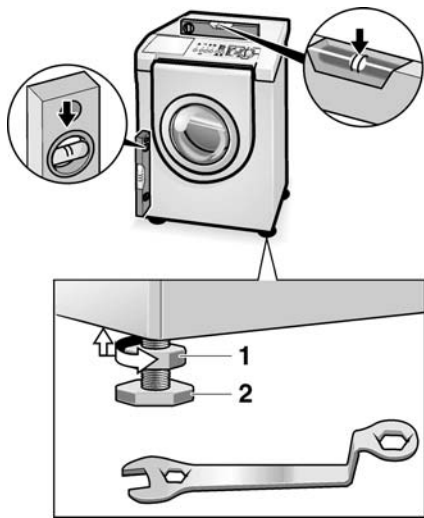

Figure 17
- ❑ Loosen the lock nut (see **Figure 17, item 1**) by turning it clockwise. Use the wrench provided (or a 5/8" – 16mm open end wrench). When you turn the lock nut, the foot (see **Figure 17, item 2**) it is locked against will turn with it. This will extend the height of the foot.